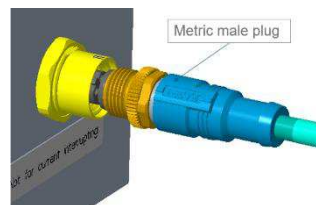

Figure 12
3.6.4 M12 Push-pull female connector mate with M12 metric male plug, Figure 12